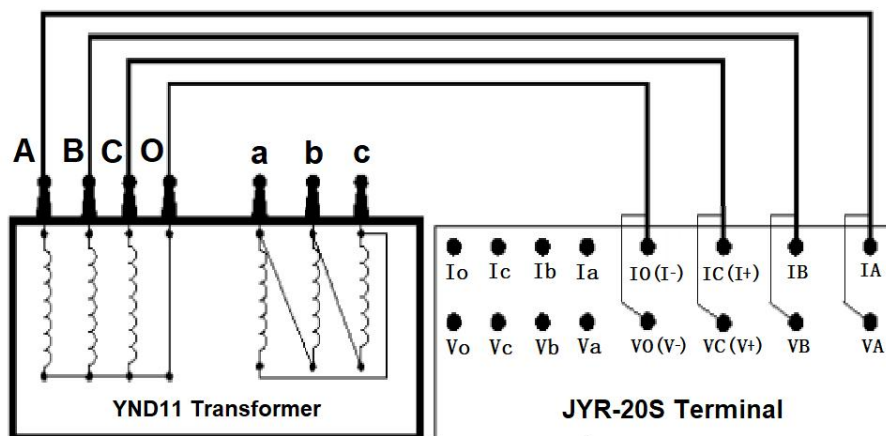

Figure 2
1. **Measurement wiring:** the tested product through the special test cable and the test post of the machine connected, test the large tab of the test cable is connected to the current end, and the small tab is connected to the voltage end. The connection is secure and prevents loosening. At the same time, connect the ground wire well. The wire clamp ends are clamped at the ends of the coil resistance of the test specimen at each end of the lead-out end. For the specific wiring method, please refer to the connection diagram below to take the YND11 transformer as an example. The following example wiring is the least measured wiring, and the lead-out column that does not test the winding needs to be independently suspended. Three-channel measurement wiring: **(three phase measurements of the YN winding)** wiring is shown in Figure 2
Phase to phase measurement of the YN winding: (The YN winding phases are measured separately) The wiring is shown in Figure 2